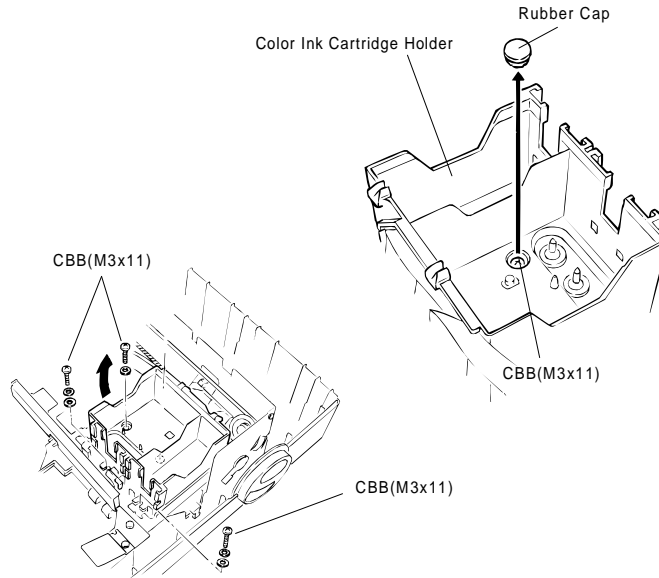

Figure 4-6. Removing the Rubber Cap
10. Remove the rubber cap covering the head screw at the side of color ink cartridge. Then loosen (but do not remove) 3 screws. (Refer to Figure 4-6.)